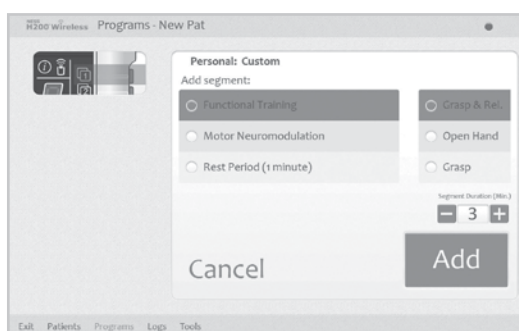

Figure 8-30: Personal Custom Program Add Segment Window
7. To add a segment, press Add to open the Add Segment window. See Figure 8-30. Select the desired segment, adjust the segment duration, and press Add. The added segment will appear at the bottom of the segment list.